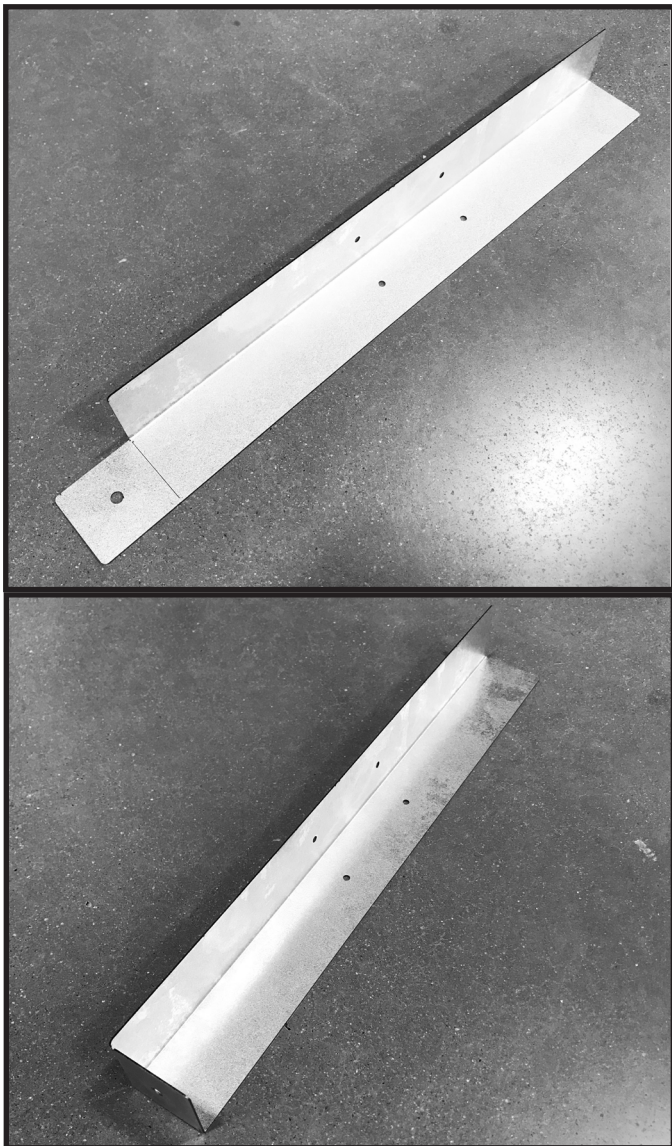

Figure 8.4 Make Hand Bends
3. Make the hand bend shown in Figure 8.4 on all of the mounting brackets.”